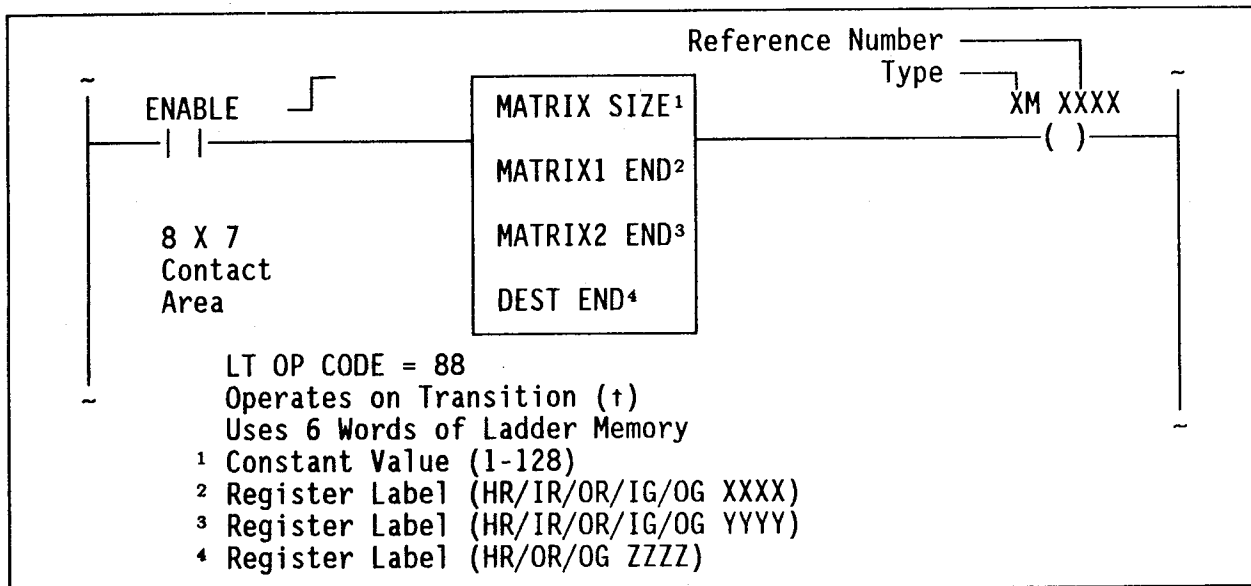

Figure 1. XOR Matrix (XM)
The XOR Matrix (XM) function exclusively OR's the contents of a pair of matrices on a bit-per-bit basis; then, it places the result in a destination matrix location. A matrix is defined as a table of registers handled on a bit-by-bit basis. XM function symbology is shown in Figure 1.